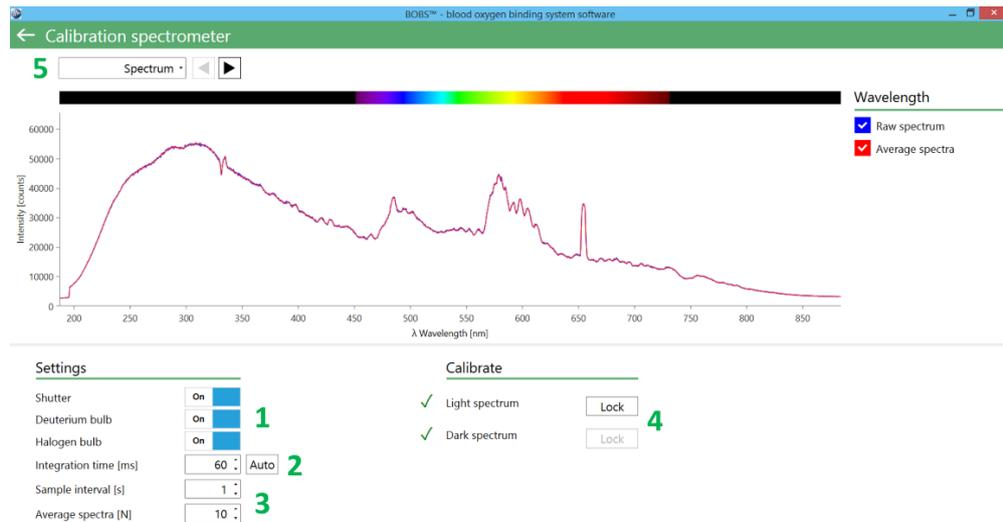

Figure 13: Spectrometer calibration
4. Make sure the shutter is opened and at least one of the Halogen/Deuterium light sources is switched on (1, Figure 13).
5. Check if you see a transmission spectrum as in (Figure 13, i.e. both bulbs on). If you only see a red straight line, check if the shutter and light bulbs are switched on and if nothing disturbs the light path. If you are unable to see any signal please refer to chapter 5 for troubleshooting.
6. Set the optimal integration time using the `Auto` button (2, Figure 13). You may push the `Auto` button several time to reach the optimal integration time, i.e. when the highest peak in the transmission spectrum reaches about 90% of the maximum intensity (~70.000 counts). You may also set the integration time yourself if you prefer to maximize the signal for a particular wavelength range.
7. Set the desired sampling interval and the number of spectra to be averaged (3, Figure 13). A setting of e.g. 10 seconds will save one complete transmission spectrum including the calculated absorbance spectrum every ten seconds. If the sampling interval is larger than the integration time excess spectra are recorded that can be averaged for signal smoothing.
8. Once the transmission spectrum is stable, push the `Lock` button to record the light reference spectrum (4, Figure 13).
9. Close the shutter and wait again till the signal is stable. Push the `Lock` button to record the dark reference spectrum representing any electrical noise originating at the CCD sensor of the spectrometer (4, Figure 13).
10. Select the `Calibration` graph from the drop down menu to review both reference spectra (5, Figure 13).